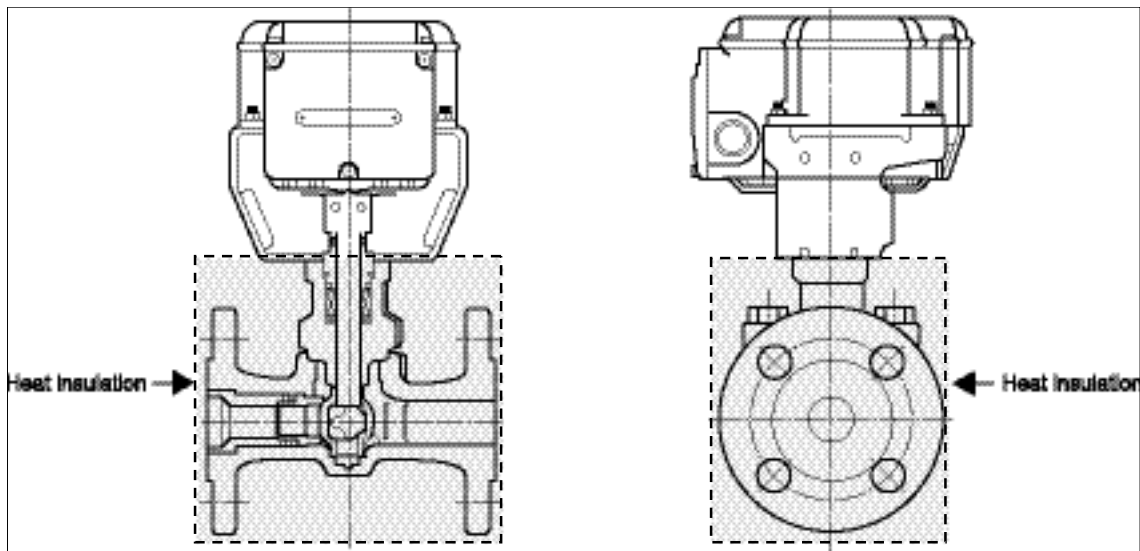

Figure 3. Heat insulation
- 4) Do not apply heat insulation to the actuator and the yoke. Apply heat insulation only to gray area (squared with dashed line) shown in Fig. 3.